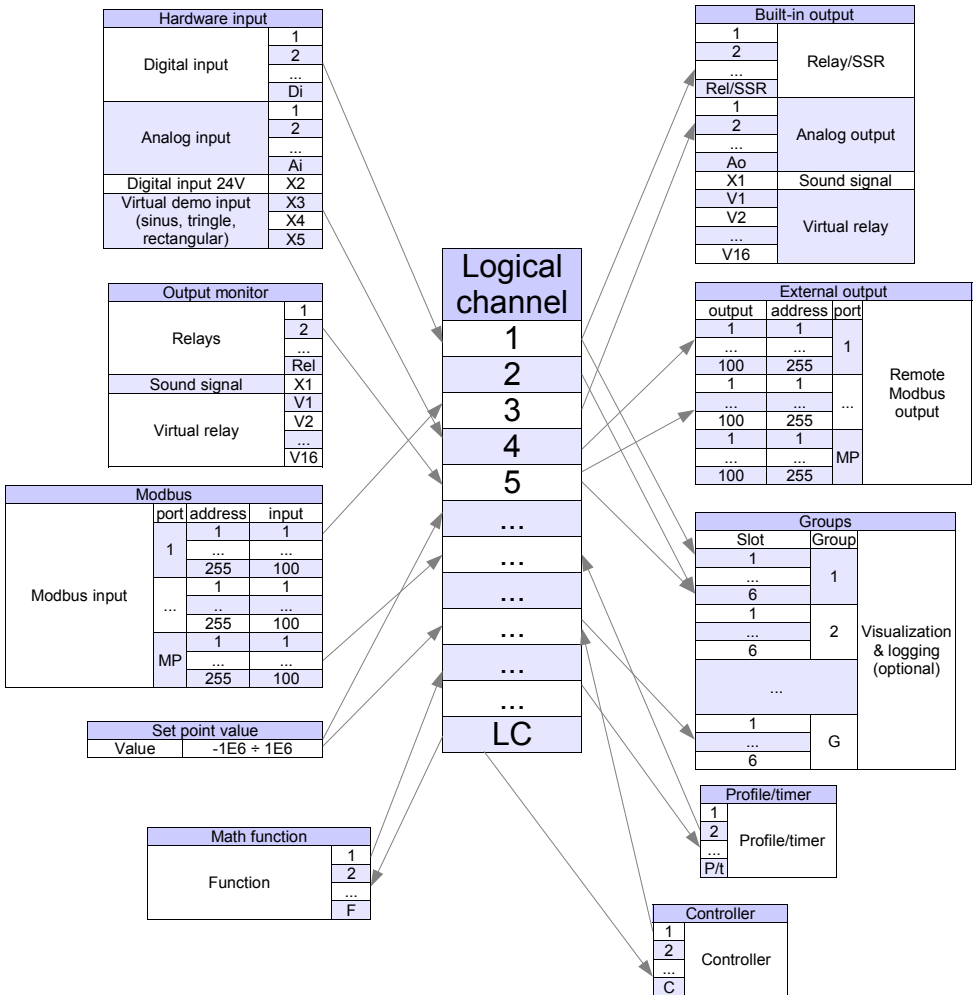

Fig. 5.1. The overall connections structure of the Logical channel with the device I /O
**Fig. 5.1** shows the general structure of connections between logical channels and device inputs/outputs. Each of the **Logical Channels** can be configured to represent: